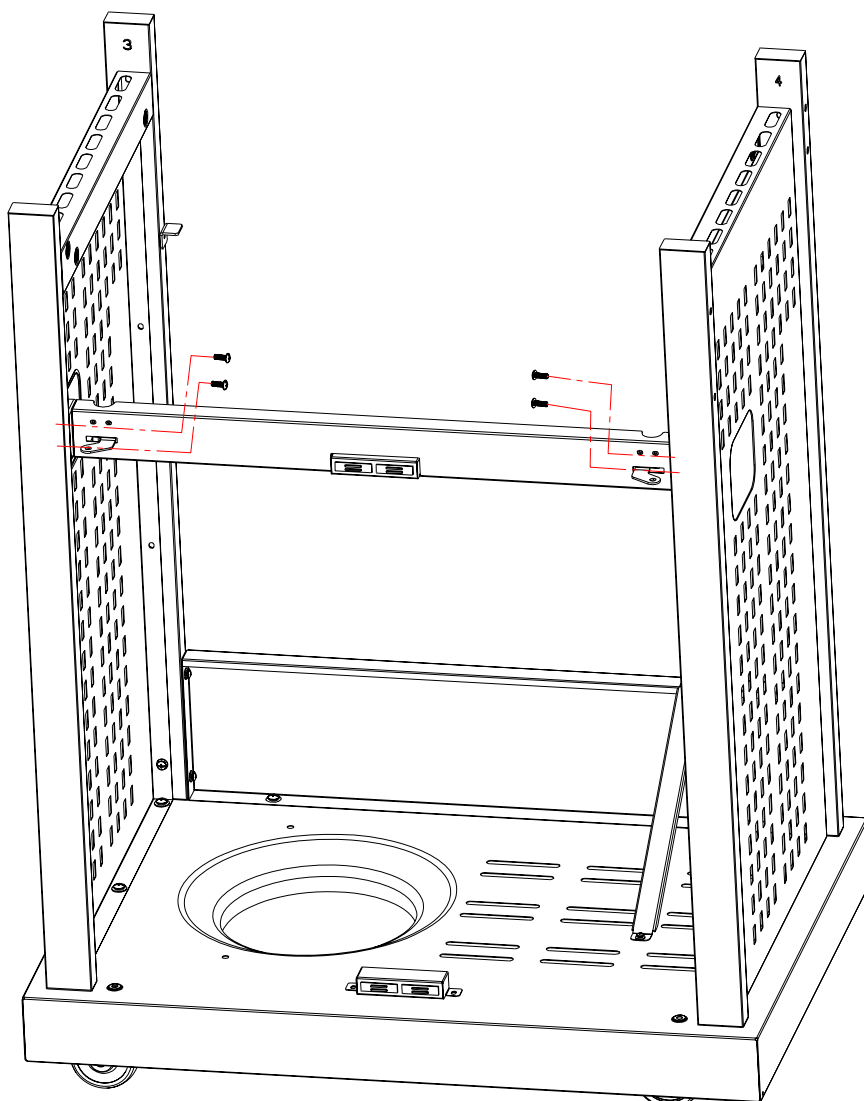

Fig.6
1. Align door bracket holes with holes on front legs. Attach bracket to the front legs with four (4) M5 x 15 screws as shown in Fig.6.